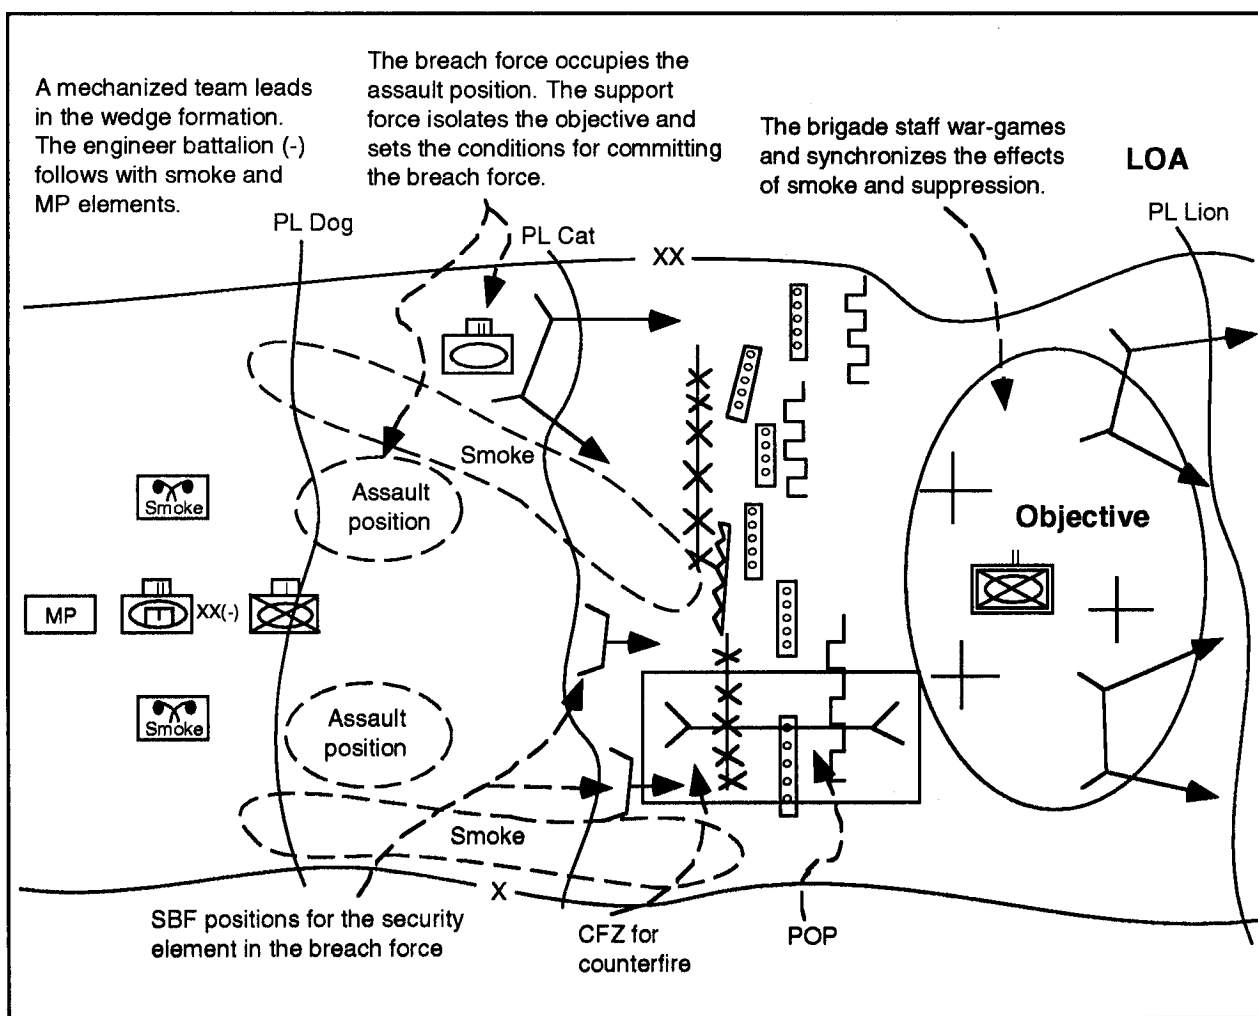

Figure 3-5. TF breach
- **Maneuver and fire control.** Movement to the breach-force assault position may be as shown in *Figure 3-5*. Maneuver forces could be positioned in a wedge formation to the front of the breach force. Engineer elements travel in a column behind the wedge formation, with smoke elements moving on their flanks to provide screen support, as required.
In *Figure 3-5, page 3-11*, the breach force moves from an attack position while a mechanized team leads in a wedge formation with two engineer companies abreast. The breach-force commander is positioned in the center where he can best C² the formation. The breach force eventually occupies an assault position and conducts final preparations for the breach while the support force sets, suppresses, and obscures the breach. On order, the breach force moves forward to reduce the obstacle system. A mechanized team occupies SBF positions to provide local security, and the smoke platoon continues to provide smoke at the breaching site. Engineer breach teams reduce and mark lanes and provide initial traffic control for assault forces passing through. After the assault forces pass, the MPs waiting in assault positions are called forward to assume traffic control.